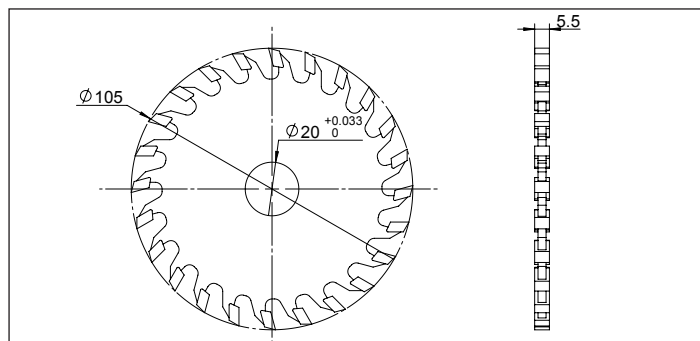

Fig. 3.2.3
3.2.3 Saw blade parameters (see Fig.3.2.3)